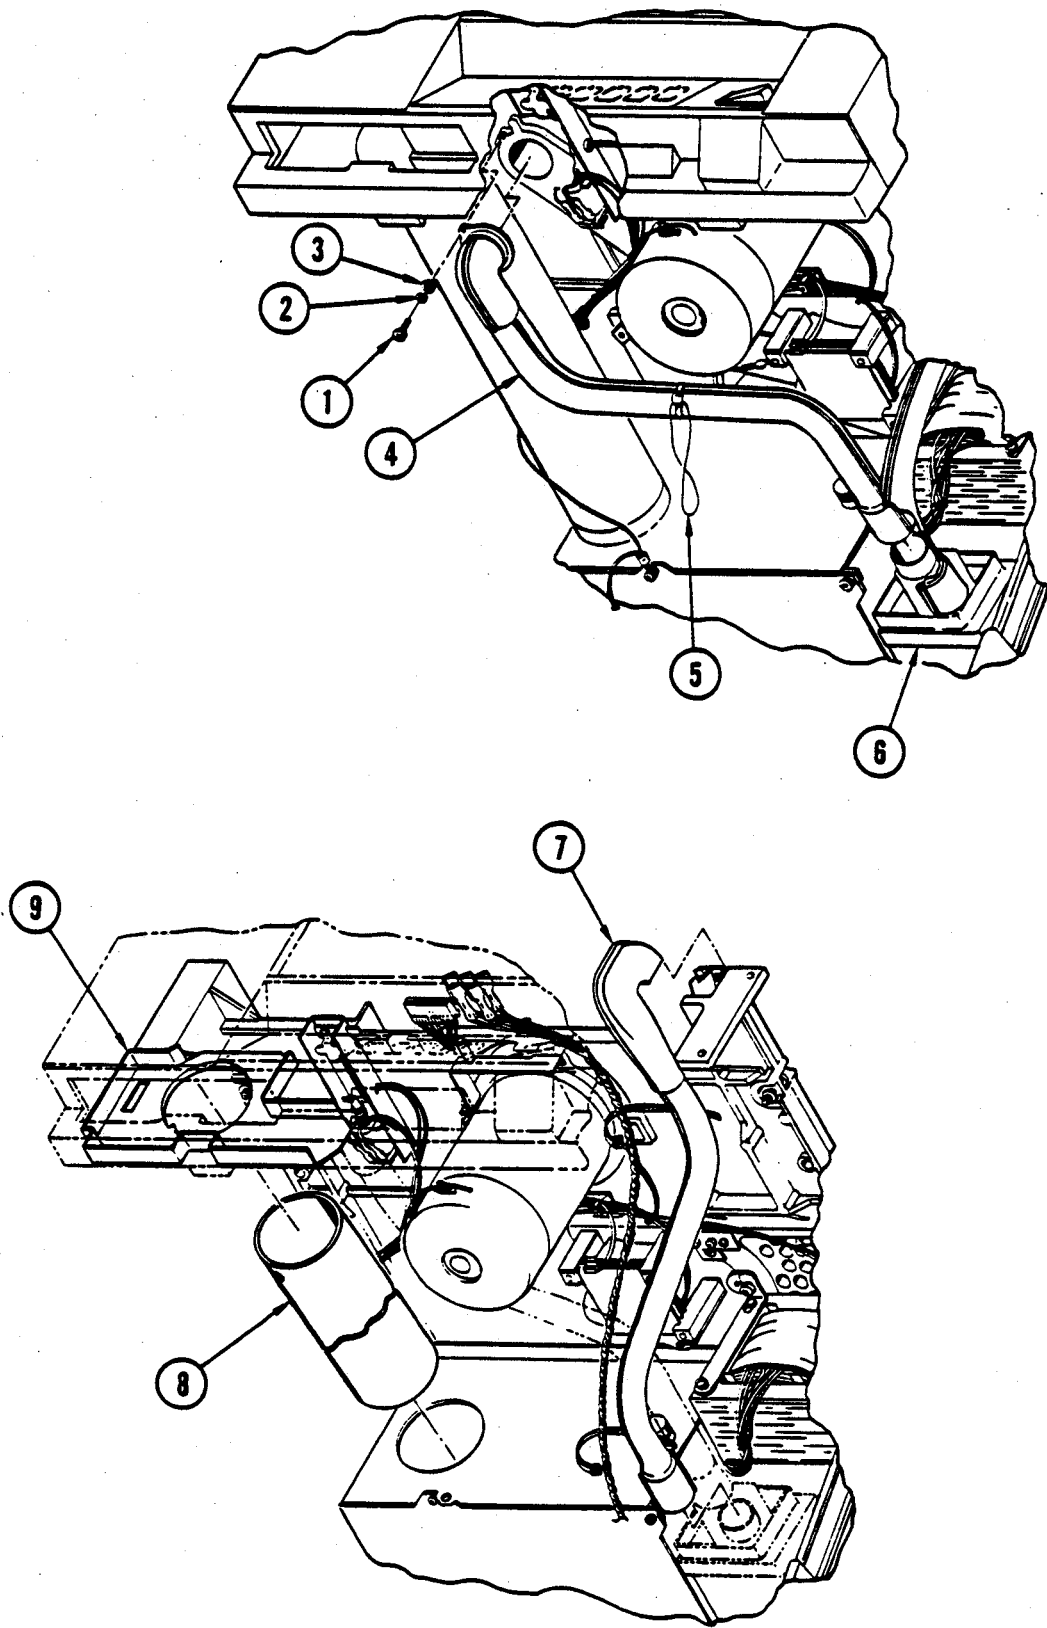

Figure 4-27. Top Plate Air Duct, Front Panel Air Duct, Air Intake Tube
4-41. Removal and Replacment (Figure 4-27). Place the transport in service access position (paragraph 4-3). To replace the top-plate air duct, proceed as follows:
4-42. Front Panel Air Duct (Figure 4-27). Replace the front panel air duct as follows:
4-43. Air Intake Tube. (Figure 4-27). Replace the air intake tube as follows:
4-45. **Disassembly, Removal and Replacement (Figure 4-27).** To disassemble hub lock assembly and remove parts from top plate and supply motor, proceed as follows:
- c. Remove wire terminals from solenoid (3, Figure 4-27) and identify for reassembly.
- d. Remove two screws (1), and lockwashers (2), and remove solenoid (3) from top plate and spring (4) and washer (16) from solenoid plunger (5).
- e. If plunger (5) or bellcrank (8) must be replaced, remove supply motor in accordance with instructions in paragraph 4-44. Remove retaining ring (7) and bellcrank (8) from motor, and press out pin (6), releasing plunger (5).
4-47. **Manual Unlock Assembly (Hub Lock) (Figure 4-27).** To replace the manual unlock assembly or one of its parts, proceed as follows:
- b. Remove manual unlock assembly from top plate by removing two screws (9, Figure 4-27) and lockwashers (10).
- c. Remove pin (14) from bracket (15) by removing screw (11), lockwasher (12), and flatwasher (13).